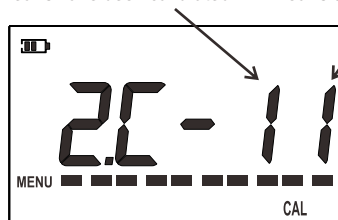
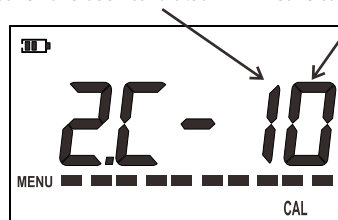

Figure9
Figure10
- (4) To calibrate upper range point: Use the pressure source to control the upper range pressure, 100 kPa. After the reading is stable push  to confirm, then the screen should be shown as in Figure 9, which means the calibration procedure is completed.
Access the second function **2C-11** of the calibration menu, as shown in Figure 9. Then push the button  , the screen should be shown as Figure10, which means the calibration has been canceled.